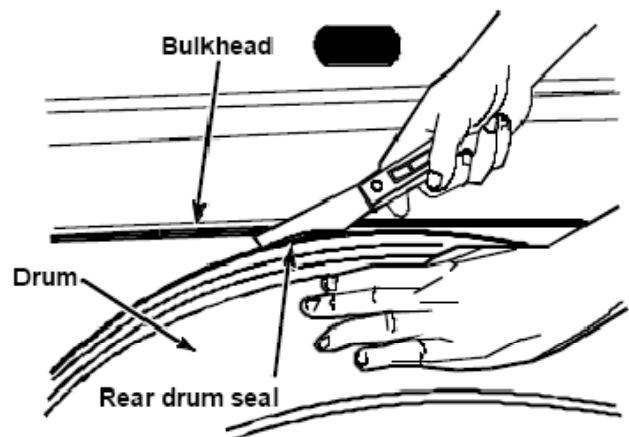

FIGURE 9
23. Place a small screwdriver or putty knife under the seal at the top of the bulkhead. Turn the drum by hand one full turn (counterclockwise), making sure the rear seal is riding on the bulkhead and not turned under. See *Figure 9*.